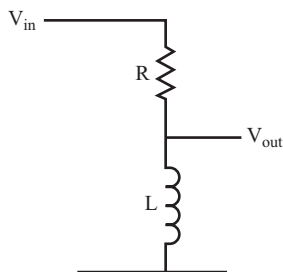
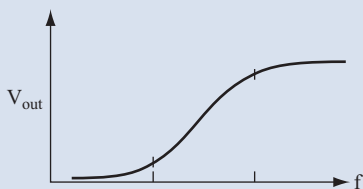

FIGURE 6.49
FIGURE 6.50
**33** You can also create a circuit as shown in Figure 6.49, in which the output voltage is equal to the voltage drop across the inductor.
- B. See Figure 6.50.
The curve in Figure 6.50 demonstrates that using an inductor and resistor in a circuit, such as the one shown in Figure 6.49, produces a high-pass filter similar to the one discussed in problems 6 through 13.